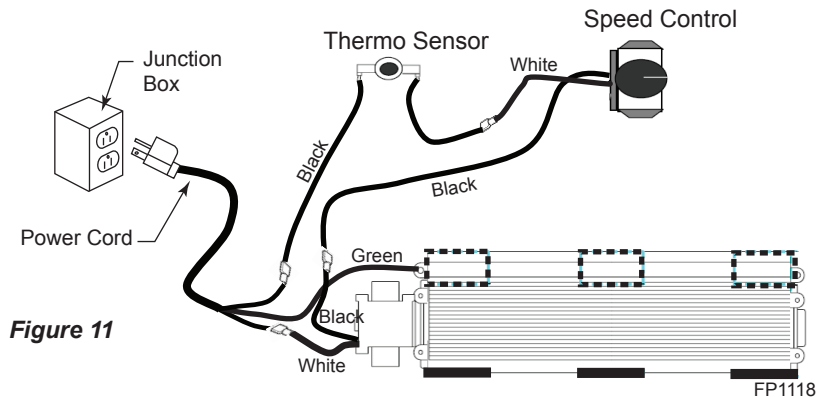

Figure 11
2. Plug in power cord to junction box. *Figure 11*